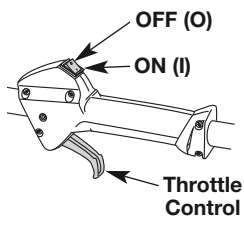

Fig. 7
NOTE: There is no need to turn the unit on. The On/Off Control is in the ON (I) position at all times (Fig. 7).
2. Press and hold the On/Off Control switch in the **OFF (O)** position until the unit comes to a complete stop (Fig. 7).